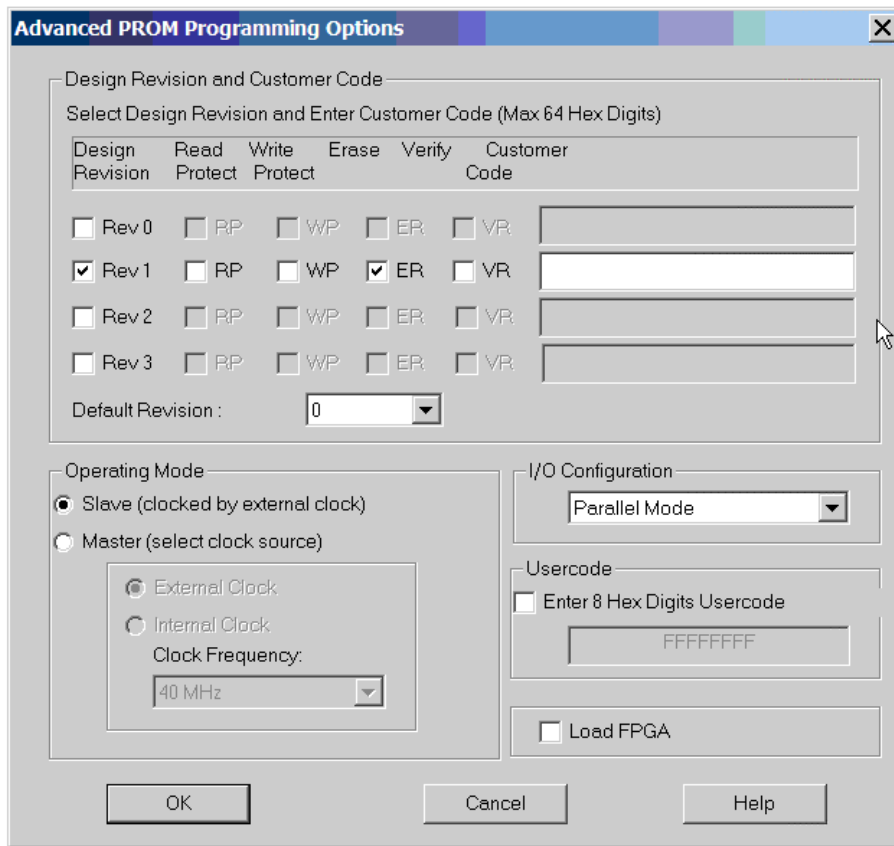

Figure B-14: PROM Programming Options
21. Select Design Revision Rev 1, and set the Erase (ER) bit to erase any previous "User" design. Make sure that the Write Protect (WP) bit is **not** set.
22. Verify that the Operating Mode is set to Slave and the I/O Configuration is set to Parallel Mode as shown in Figure B-14.